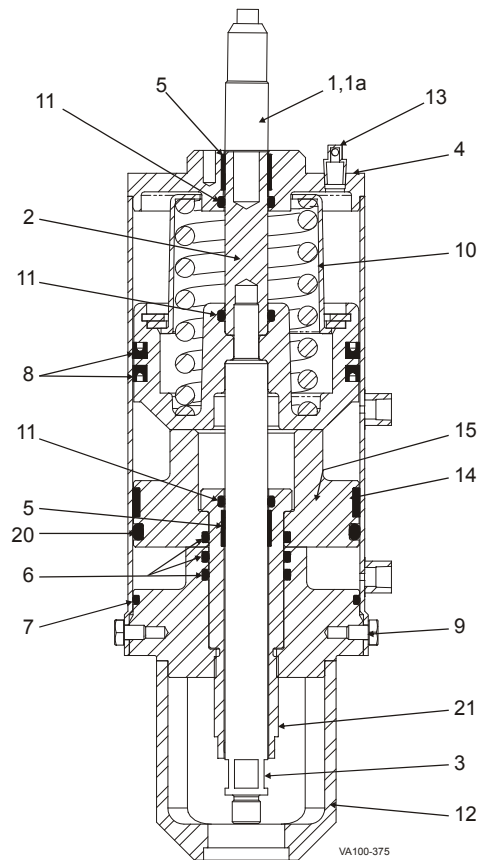

Figure 38: 4" Air-to-Raise 3-Position Actuator
1. Inspect the upper piston U-cup seal (Figure 38, item 8).
2. Remove the worn U-cup seal. Do not score or nick grooves in the piston (item 10).
5. Clean, prime and apply Loctite® 2440 Thread Locker, according to manufacturer's specifications, to the upper (items 1, 1a) and lower (item 3) stems. Torque the stems to 200 in/lbs.
6. Inspect the lower piston o-ring (item 20), stem o-ring (items 6 and 11) and yoke o-ring seals (item 7).
7. Remove the worn o-ring seals. Do not score or nick grooves in the piston (item 15).
10. Inspect and replace the PTFE guide bearings (items 14 and 5) as needed.
11. Place the outer stem (item 21) in the lower piston.